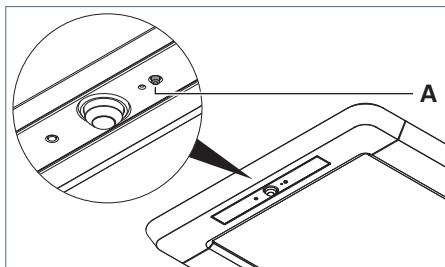
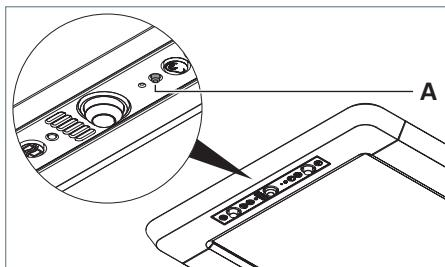

Fig. 33: Carrying out reset, version R.
Fig. 34: Carrying out reset, version RX.
- ▶ Press the key **A**, keep the key pressed and connect the luminaire to the power supply again, see Fig. 33 and see Fig. 34.